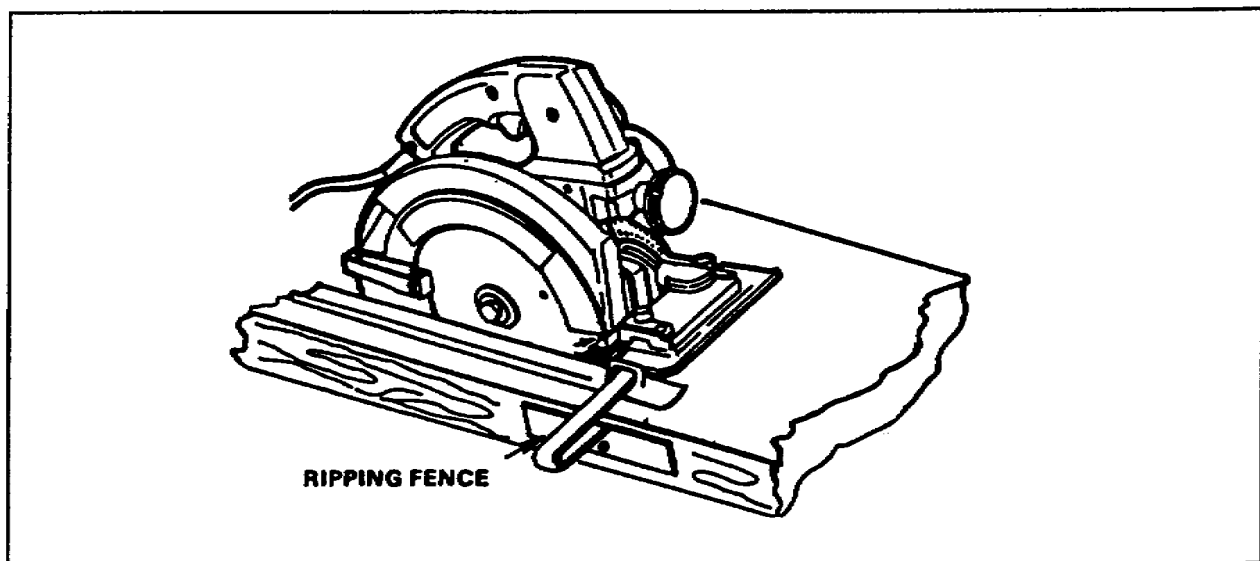

Figure 2-56. Ripping fence
e. Ripping Fence. A very important accessory available for the portable power saw is the ripping fence (or *guide*) (Figure 2-56), which permits ripping of lumber to a predetermined width. It is used to ensure an exact cut of a predetermined distance from the board edge. Many carpenters reverse the hand position shown here in ripping. Use the most comfortable position.